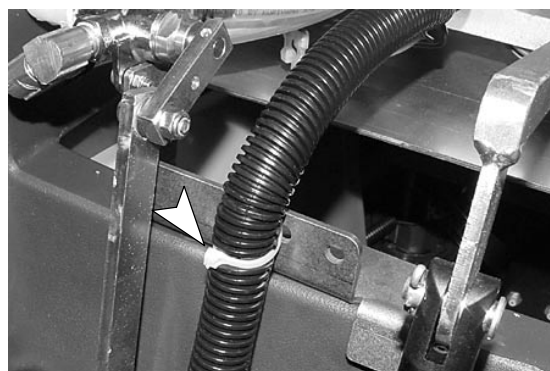

Fig. 6
2. Secure the wire harness with the wire tie that is supplied with the kit as shown (Figure 6).